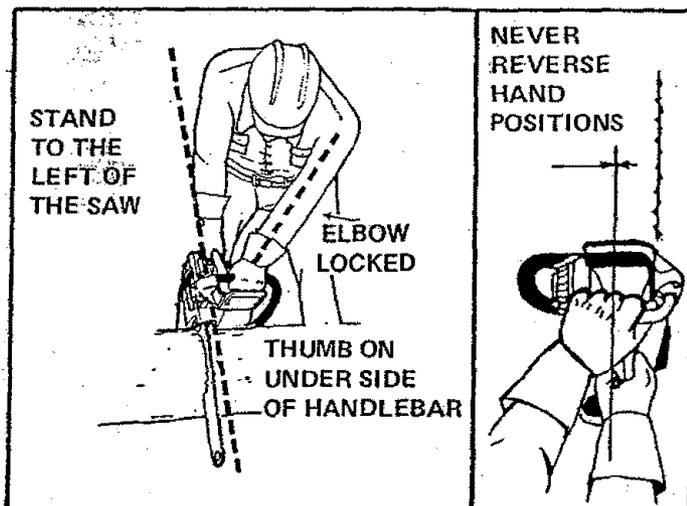

Figure 22
- Keep a good firm grip on the saw with both hands. Figure 22. A firm grip can help neutralize kickback. Keep the fingers of your left hand encircling and your left thumb under the front handlebar. Keep your right hand completely around the rear handle. Keep your left arm straight with the elbow locked.
- Position your left hand on the front handlebar so it is in a straight line with your right hand on the rear handle. Figure 22. Never reverse right and left hand positions on the saw handles.
- Stand slightly to the left side of the saw, to keep your body from being in a direct line with the cutting chain. Figure 22.